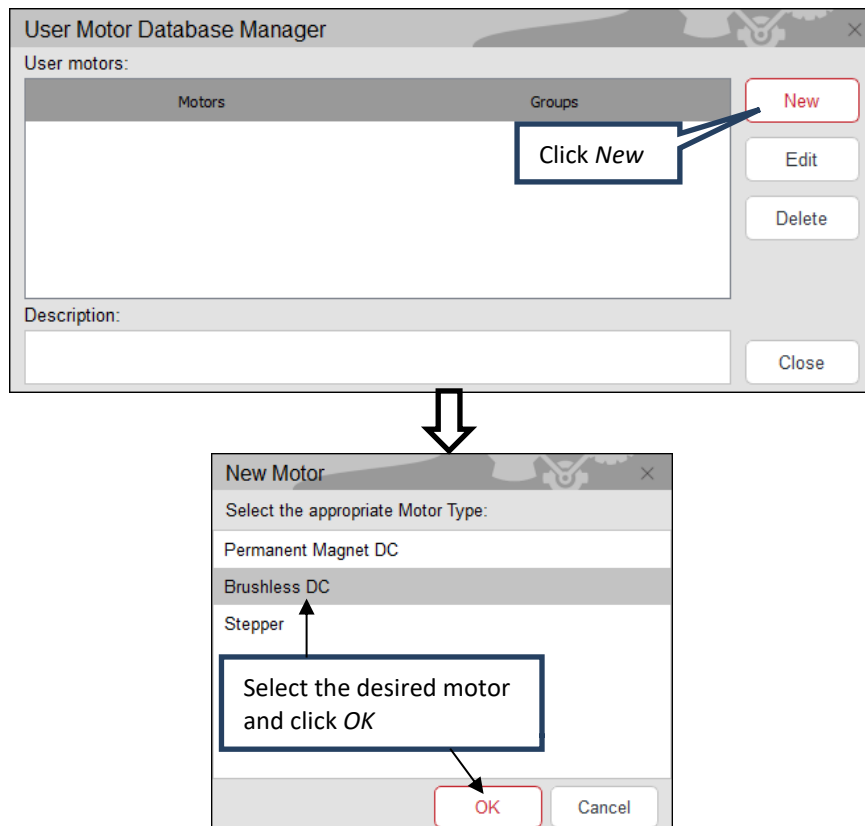

Figure 72: New Motor Type Selection Window
- Select *New* in the *User Motor Database Manager* window and select the desired motor type from the list and click *OK* as shown in Figure 72. Brushless DC motor is selected to demonstrate this tool.